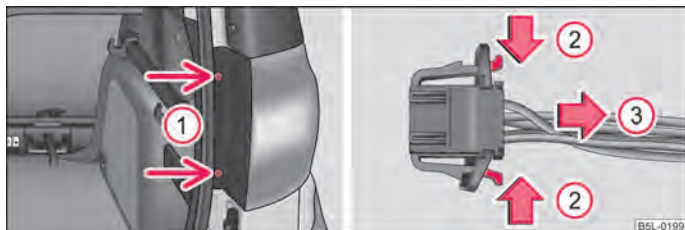

Fig. 187 Removing the rear light unit/disconnecting the plug connection
- Unscrew the light with the aid of the Torx wrench from the vehicle tool kit. The shorter side of the wrench is used for loosening the screws and the longer side for screwing the screws out completely ① ⇒ fig. 187.
- Disconnect the plug connection by pressing the catches in direction of arrow ② and by pulling them in direction of arrow ③ ⇒ fig. 187.
- Screw on the bulb ⇒ fig. 187 - left.